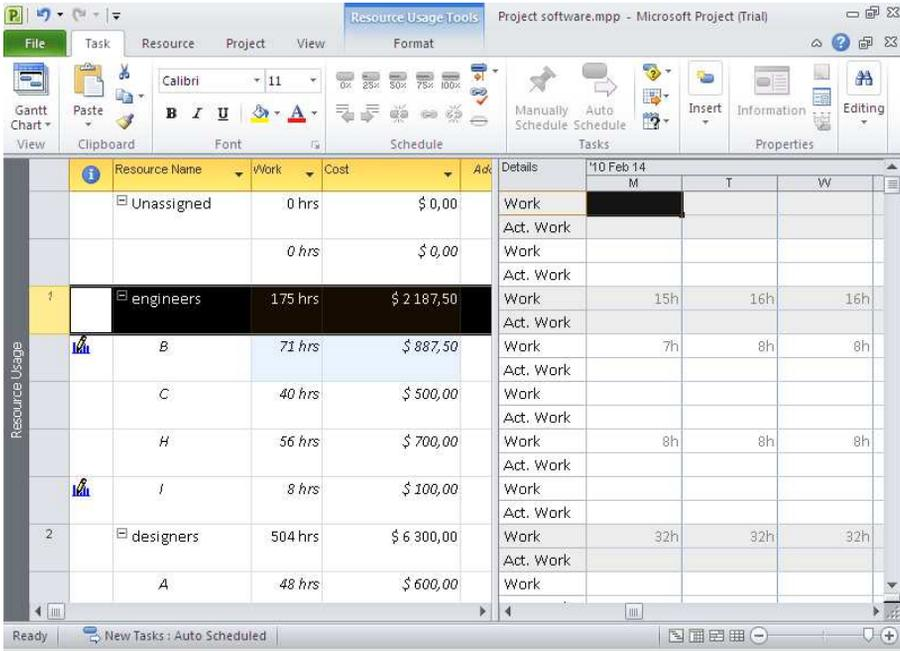

Fig. 4. Added current value of work
5. In the Act. Work field in the assignment row, type the actual work values in the appropriate time periods (see Fig. 4).